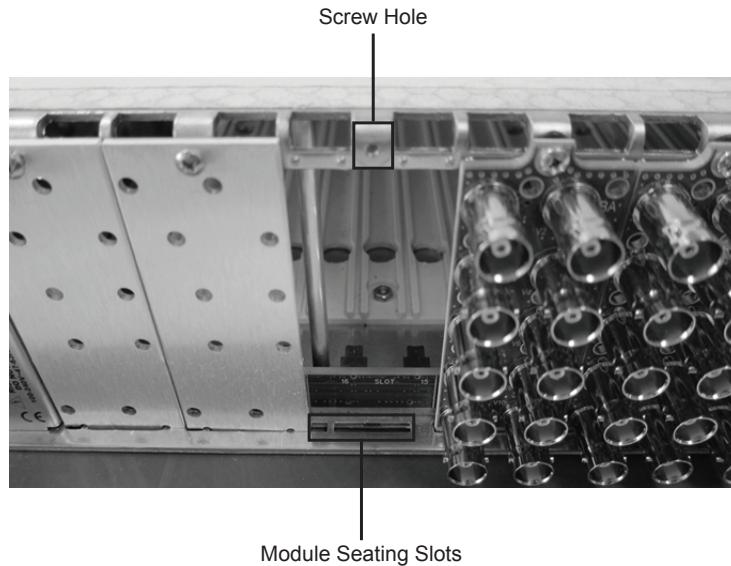

Figure 2.1 Rear Module Installation in an openGear Frame (VEA-8707A not shown)
3. Install the bottom of the Rear Module in the **Module Seating Slot** at the base of the frame’s back plane. (Figure 2.1)